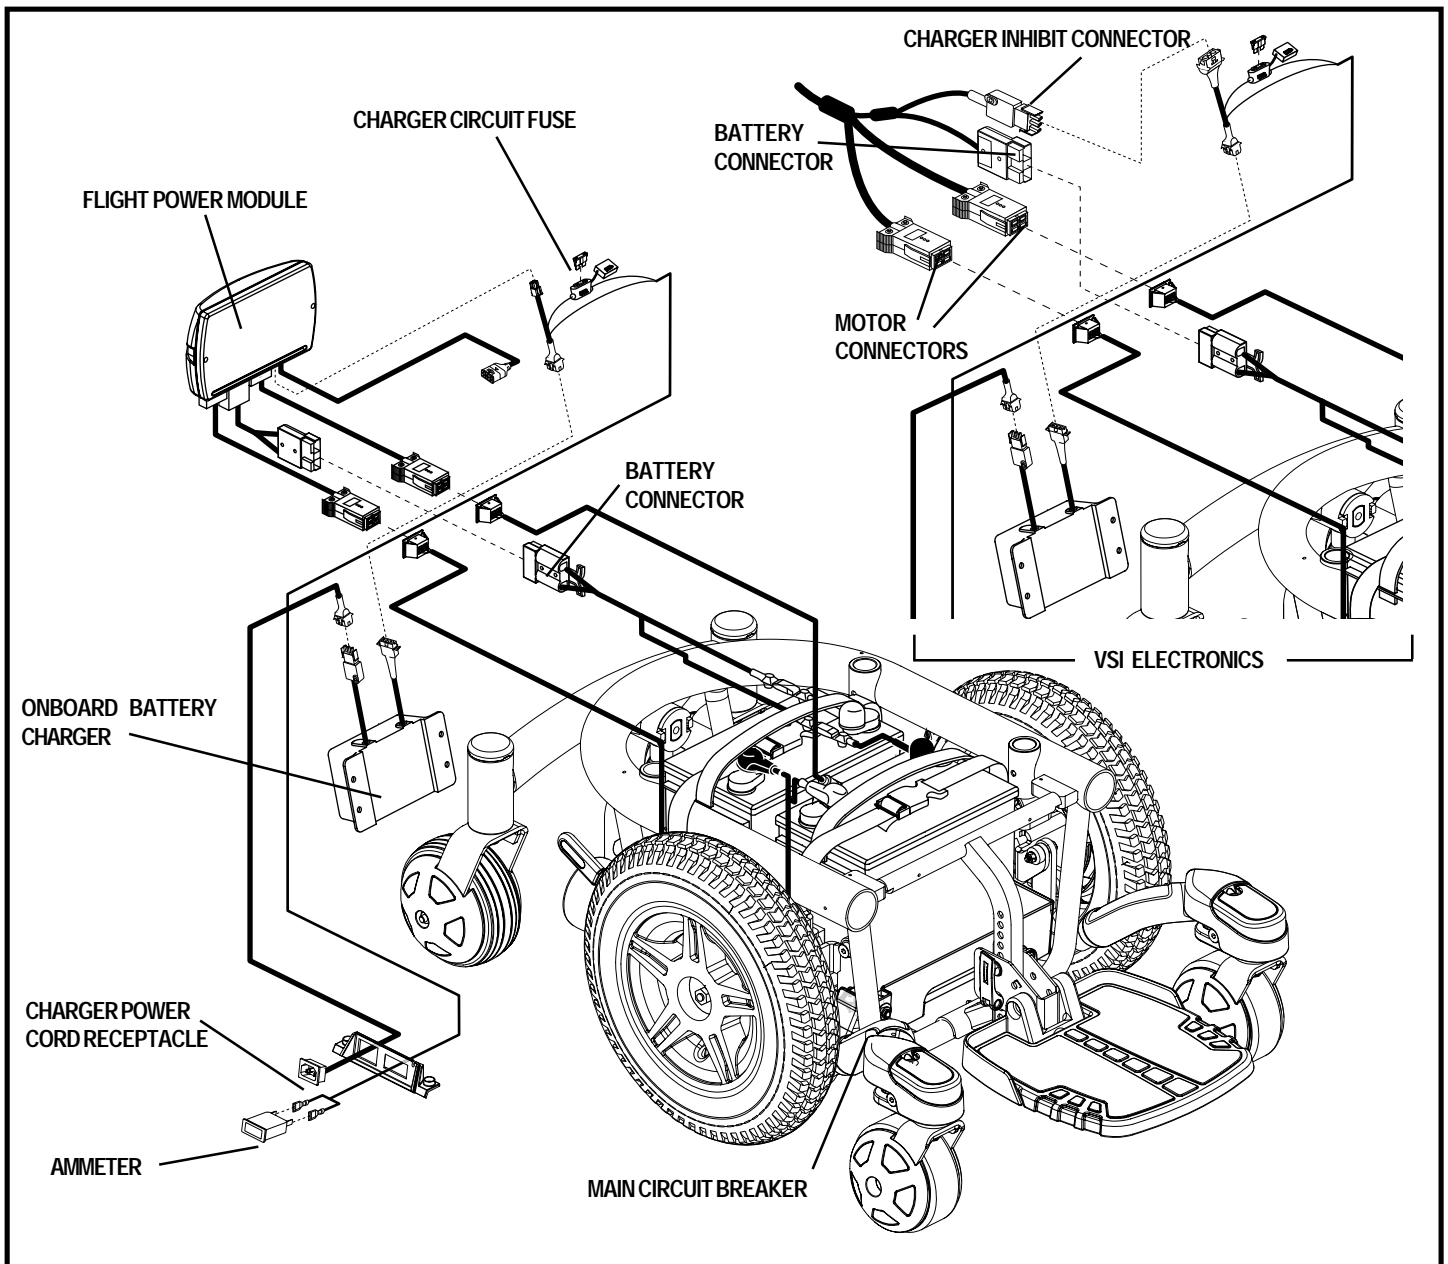

Figure 7. Quantum 600 Electrical Components (Shown with Optional Onboard Charger)
The electrical components are located inside the power base. The ammeter and the charger power cord receptacle for the optional onboard charger are located on the right side of the power base. The main circuit breaker is located on the front of the battery tray. The controller connector(s) are located inside the power base. See figure 7.
7. Plug the controller connector(s) into the power base. See figure 7.
3. Disconnect the controller connector(s) from the power base. See figure 7.